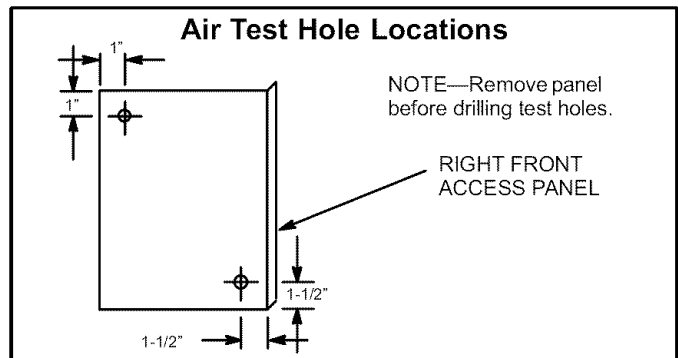

Figure 4
2. Drill two 5/16" (8 mm) air test holes in the right front access panel; hole locations are shown in figure 4. Replace the panel.